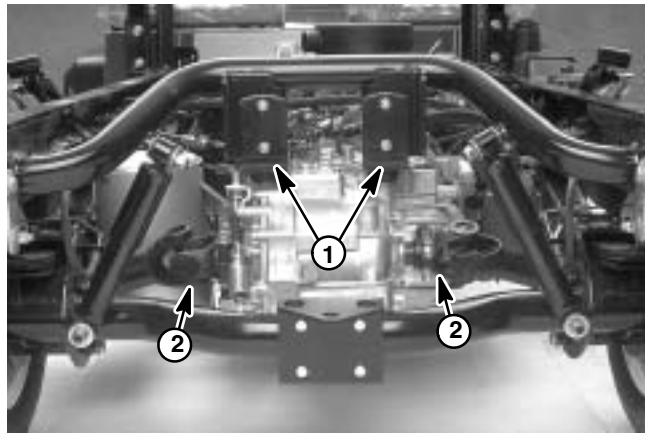

Figure 17
17. Remove transaxle isolation mounts and mount brackets (Fig. 17).